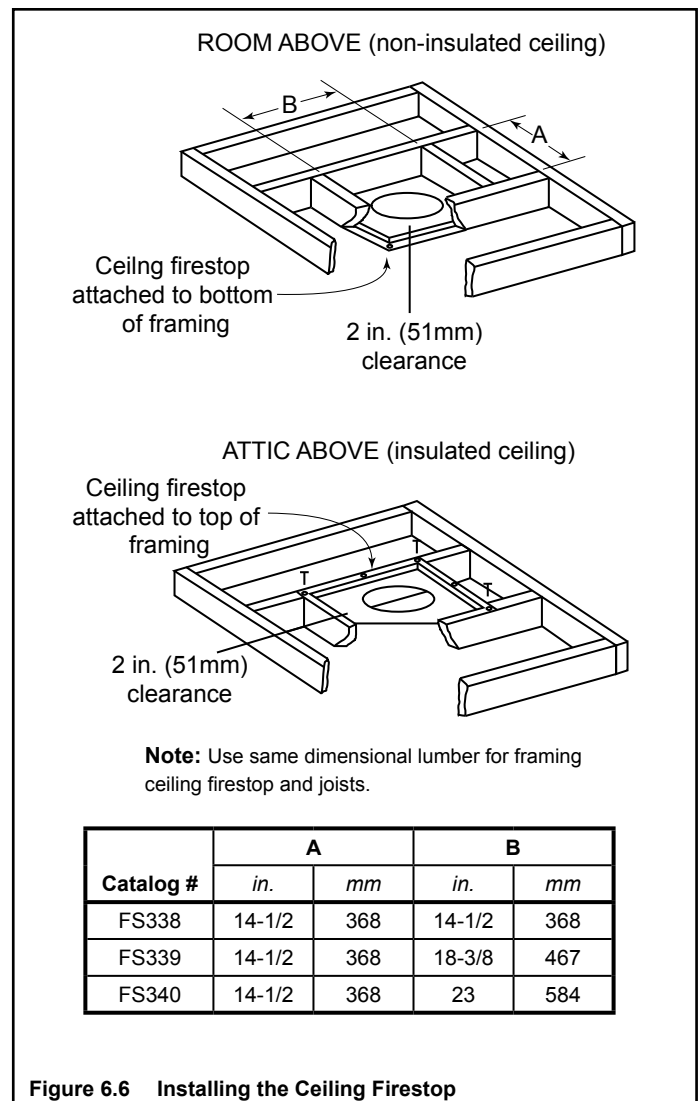

Figure 6.6 Installing the Ceiling Firestop
- Mark and cut an opening in ceiling as shown in Figure 6.6.